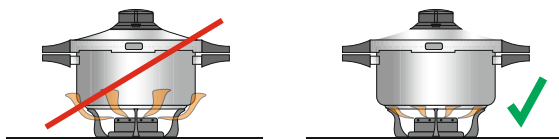

Fig 7
- The flame diameter of the stove where you put your pot is the diameter of the bottom of the pot. It should not be larger (Fig 7). If you are using a ceramic, gas, or induction cooker, make sure that the bottom of the pot is clean and dry.
Turn on the stove and place your pot on a stove where the flame will not overflow. (Fig 7)